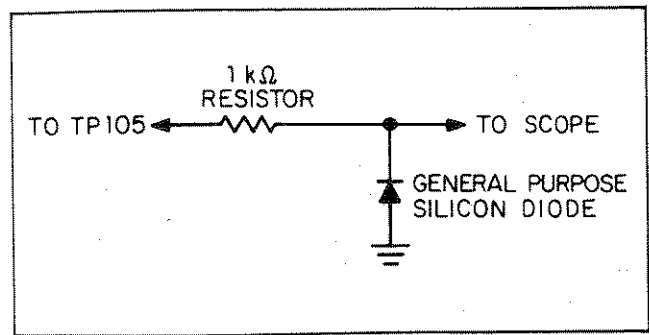

Figure V-3. START-POTENTIAL NETWORK
- (c) Set the center knob of the SCAN TIME control to $\times 10$. The observed ramping rate should slow to $0.1 \text{ V/ms} \pm 15\%$. Note the baseline and peak levels. The ramp should start at $0 \text{ V} \pm 30 \text{ mV}$ and the peaks should fall in the range of -10.5 V to -11.0 V . **NOTE:** It is difficult to check the level from which each ramp starts because the oscilloscope sensitivity must be increased to where scope overload and resultant zero-shift error occurs. This problem can be avoided by connecting a network as shown in Figure V-3 between TP105 and the scope input. With the network installed, the scope sensitivity can be increased to where the $0 \text{ V} \pm 30 \text{ mV}$ ramp-start potential can be checked. The network should not be "in" when checking the peak amplitude levels.